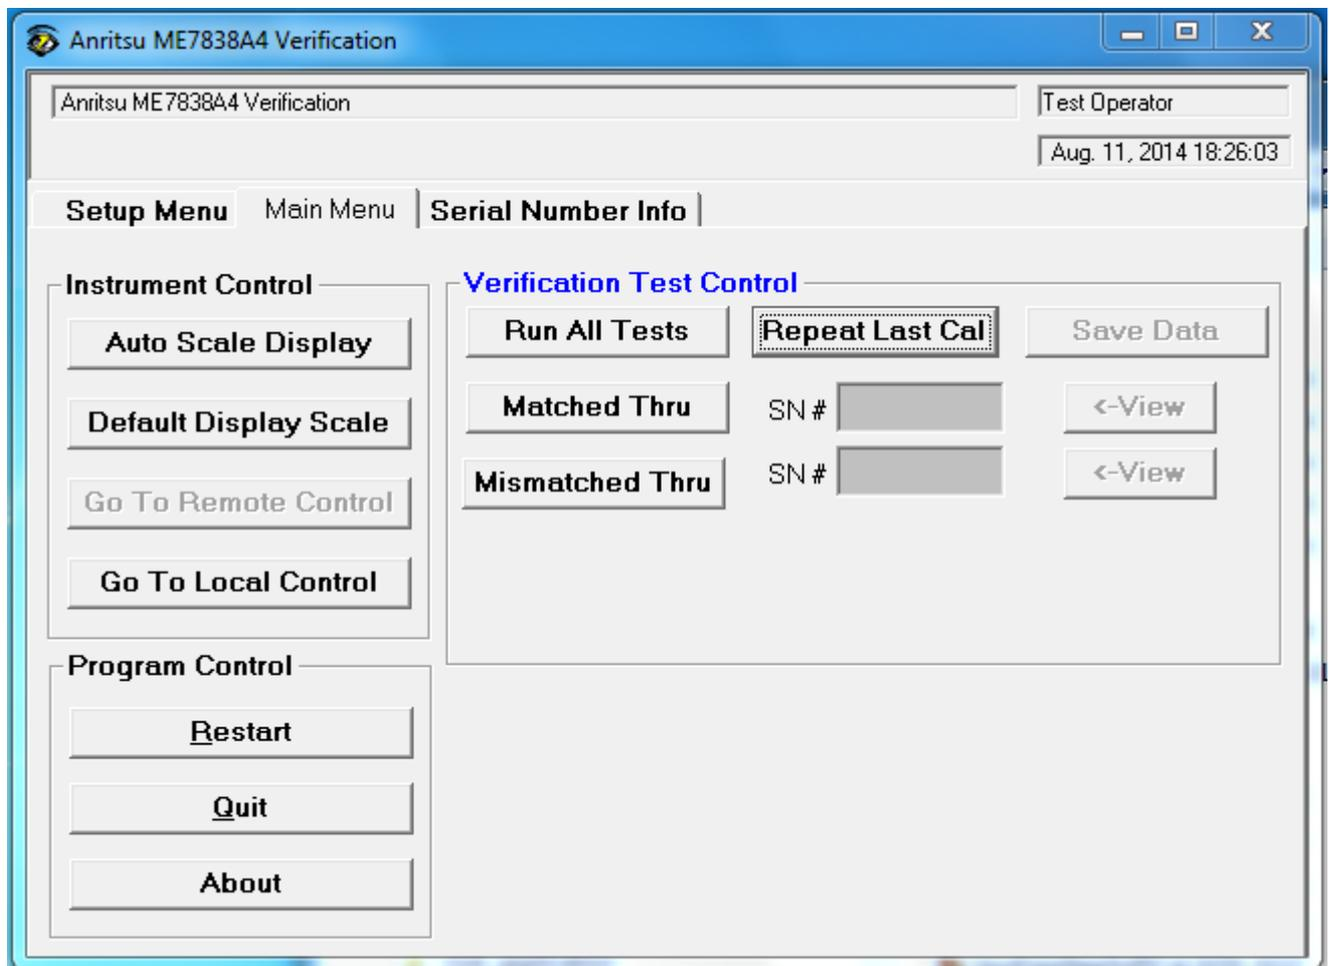

Figure 4-69. ME7838A4 Application Interface – Main Menu Tab
This command button re-calibrates the VNA according to the CURRENT calibration. This provides a way to recalibrate the VNA without having to reset the program parameters in case the original calibration was flawed for some reason. When the calibration sequence is complete, program execution continues to the Main Menu tab shown previously in Figure 4-69 on page 4-47.
9. If only the Matched Thru button was selected, the program returns to the “Application Interface – Main Menu Tab” on page 4-47. The dialog box is shown in Figure 4-69, “ME7838A4 Application Interface – Main Menu Tab” on page 4-47.
The dialog box is shown in Figure 4-69, “ME7838A4 Application Interface – Main Menu Tab” on page 4-47.